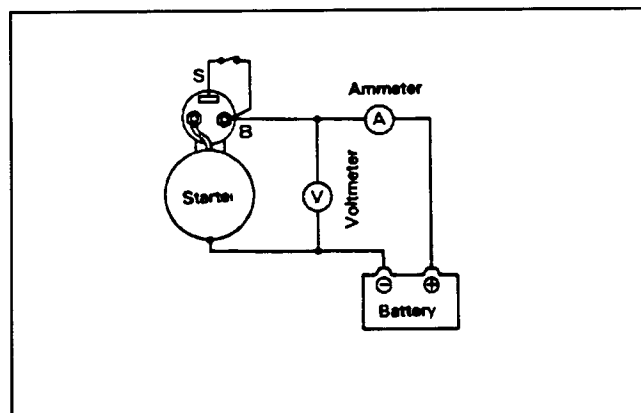

Figure 30
1. Connect a 12 volt battery, ammeter and voltmeter to the starter as shown (Fig. 30).